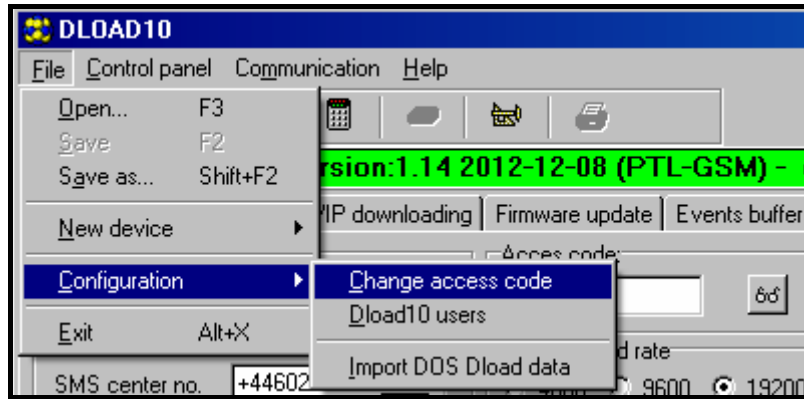

Fig. 11. Functions related to the DLOAD10 program access.
1. In the "File" menu, select "Configuration", and then "Change access code" (see: Fig. 11).
The program allows to get access based on additional codes which can be programmed and for which authority level can be defined (in the "File" menu, select "Configuration", and then "Dload10 users" – see: Fig. 11).